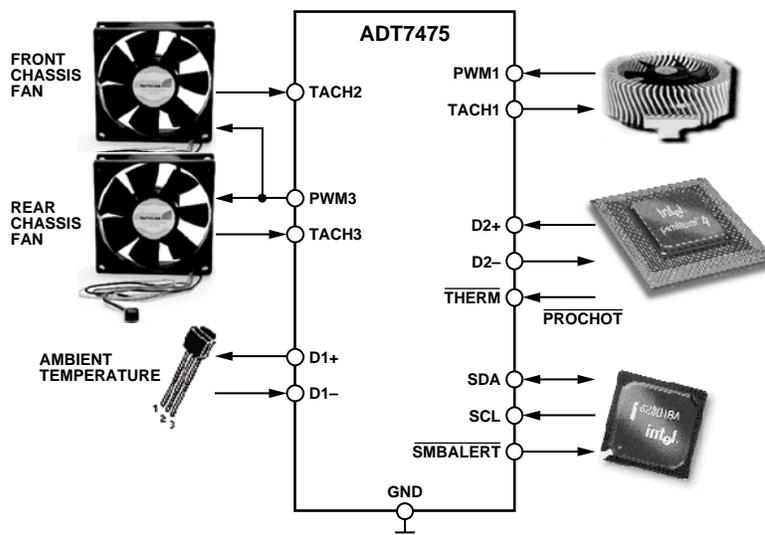

Figure 13. ADT7475 Configuration
- Configuring the ADT7475 as in Figure 13 allows the system designer to use the following features: